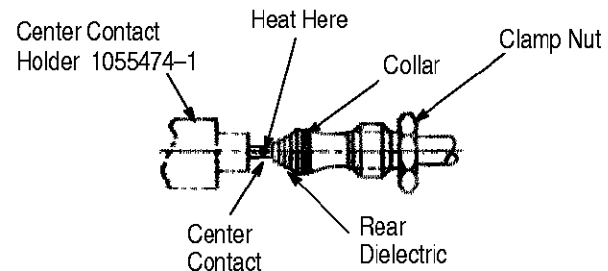

Figure 5
2.3. Soldering the Center Contact to the Cable Inner Conductor (Figure 5)